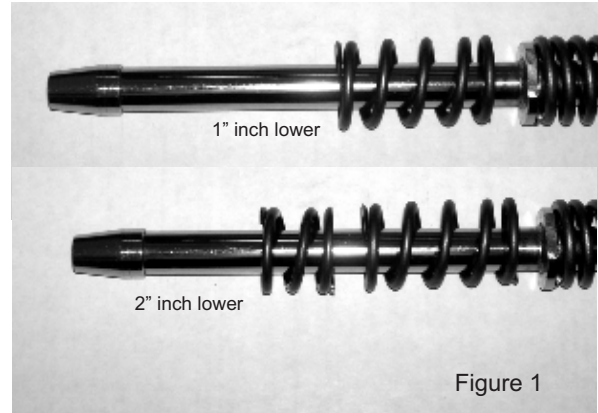
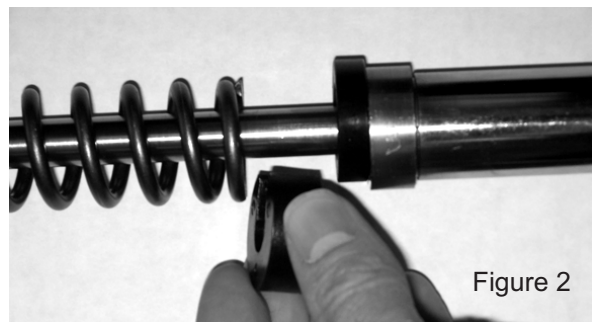

Figure 1
Figure 2
- * - If lowering the fork 1" inch, install one of the **long** top-out springs on each Progressive Suspension Monotube cartridge assembly as shown (see figure 1) AND four (4) of the supplied "C" shaped preload spacers between the top of the fork spring and the upper spring seat (see figure 2). Go to next step.
- * - If lowering the fork 2" inches, install one **long** top-out spring AND one **Stock** top-out spring on each Progressive Suspension Monotube cartridge assembly as shown (see figure 1) – AND install two (2) of the supplied "C" shaped preload spacers. Go to next step.